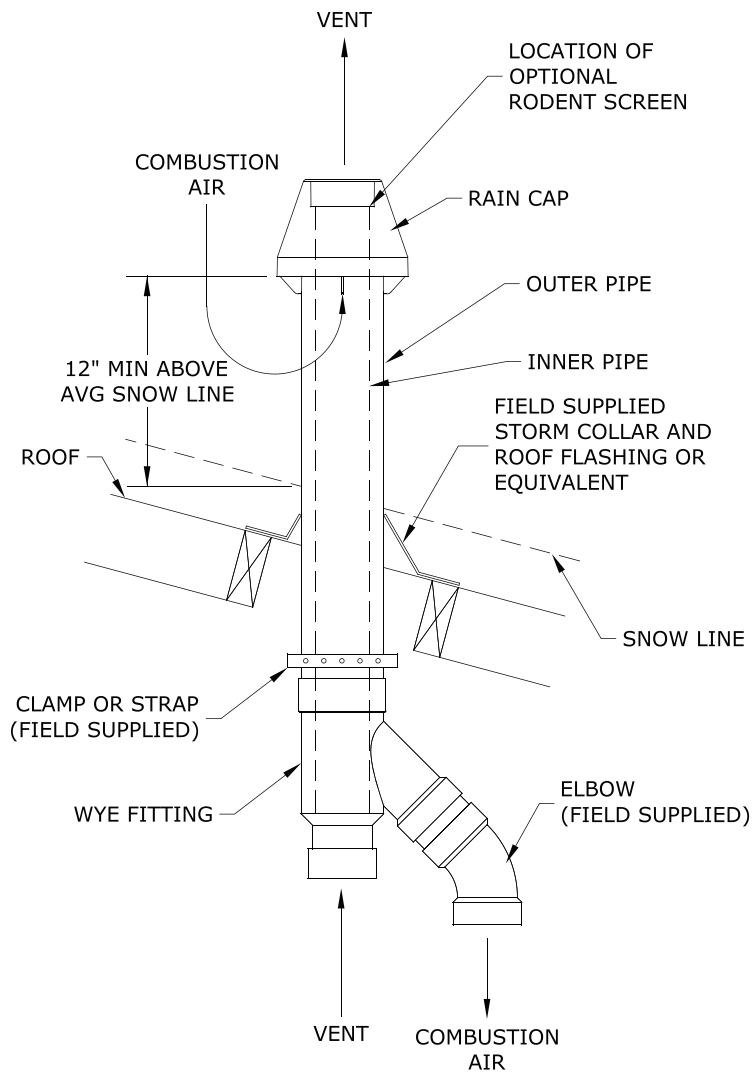

Figure 7.34: Installation of IPEX and DiversiTech Concentric Terminal Through Roof
7. Installation of IPEX FGV or DiversiTech CVENT Concentric Vent Terminal (Terminal Options D,E,I & J) - This terminal may be used for either horizontal or vertical venting. See Figure 7.33 for horizontal installation or Figure 7.34 for vertical installation. When PVC is used for venting, a 30" CPVC straight section and CPVC elbow must be used prior to connection of the vent system to this terminal. If the vent system is too short to permit this, use the IPEX FGV CPVC terminal: